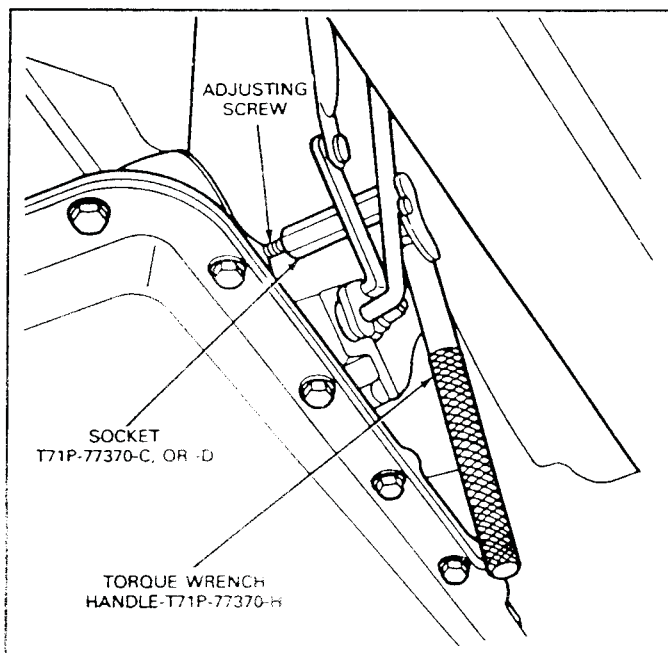

FIG. 5 Adjusting Intermediate Band
3. Install a new locknut and tighten the adjusting screw to 14 N·m (10 ft-lbs) torque (Fig. 5).